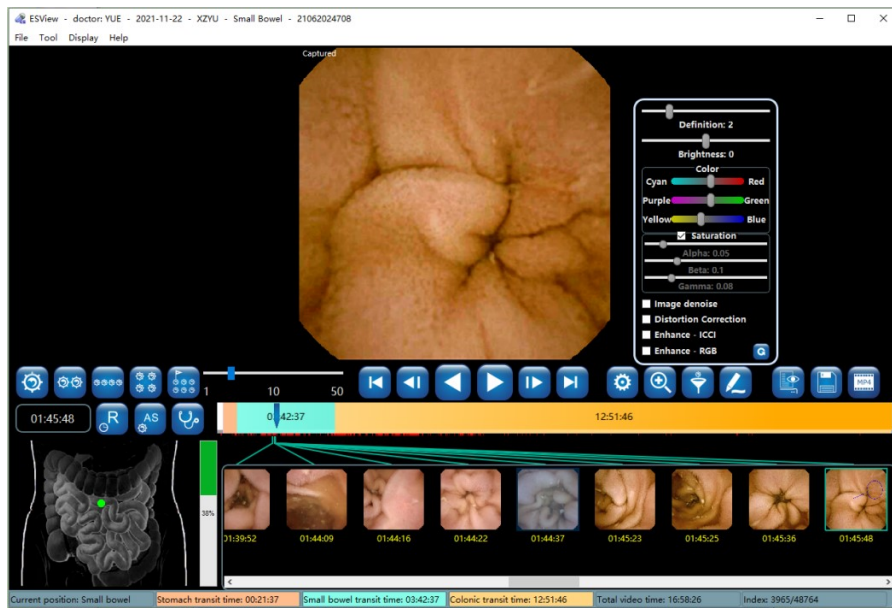

Figure 4-36: Image Saturation Adjustment
- Use the saturation adjustment sliders to adjust image saturation (Figure 4-36).